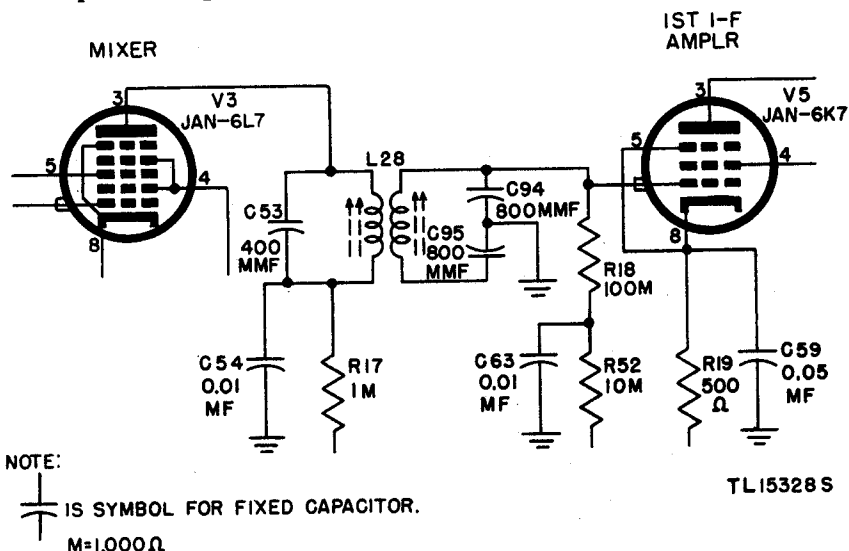

Figure 27. Mixer-first i-f amplifier coupling, Radio Receiver BC-312-L and -M Models.
(2) Screen voltage for the two tubes is obtained from the high-voltage supply through voltage dividers consisting of resistors R20 and R21 for the first i-f amplifier tube and resistors R25 and R26 for the second i-f amplifier tube. The two screen grids are bypassed to ground by capacitors C60 and C69, respectively. Plate voltage for the two i-f amplifier tubes is obtained from the B+ supply through decoupling resistors R22 for the first i-f tube and R27 for the second i-f tube. Capacitors C58 and C66 bypass these resistors to ground. Resistor R38 is placed across the primary winding of transformer L29 to broaden the frequency response of this stage.
(3) In Radio Receivers BC-312-L and -M the secondary winding of transformer L28 is tuned by series capacitors C94 and C95 whose junction point is grounded. (See fig. 27.) The grid of tube V5 is returned to the a-v-c bus through grid resistor R18 and decoupling resistor R52 connected in shunt with the secondary winding of coil L28. Capacitor C63 bypasses resistor R52 to ground.